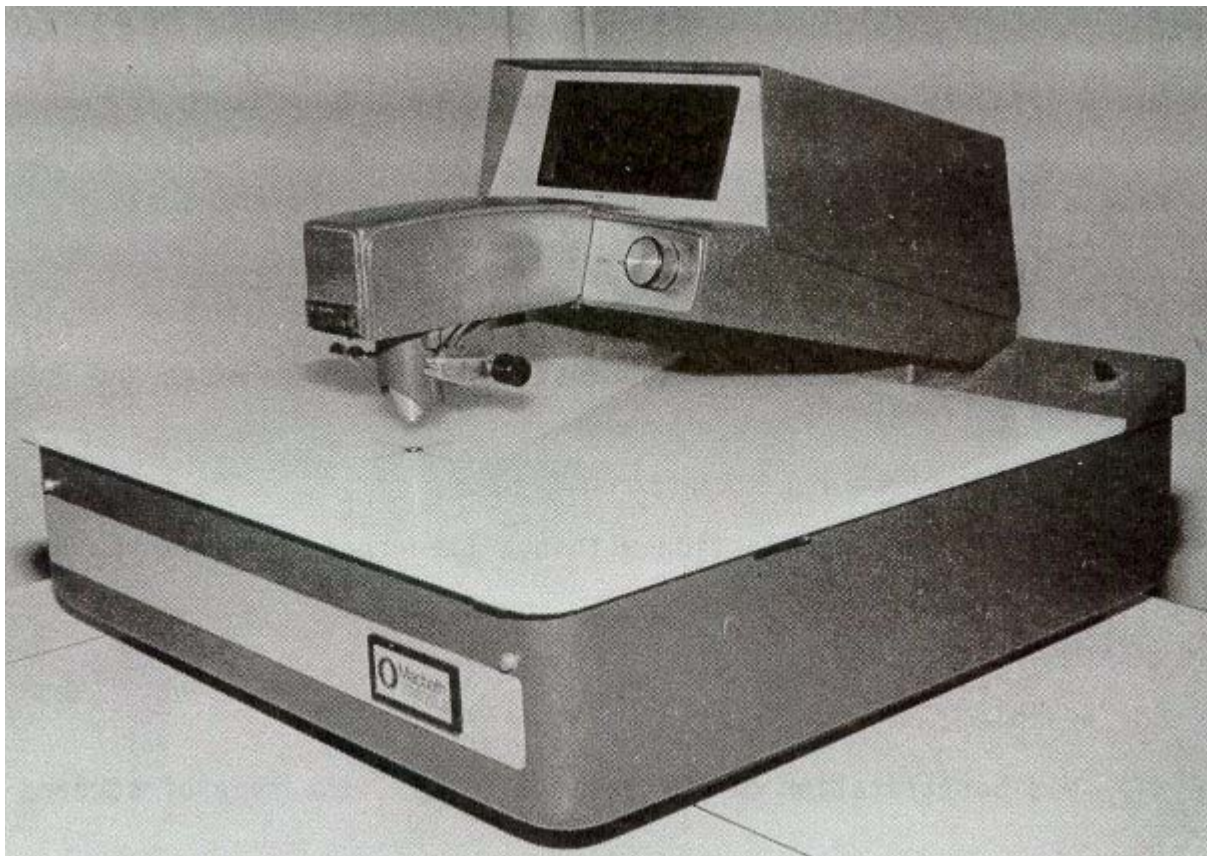

Figure 9-1. Densitometer used in making density readings.
- (3) Two mAs.
k. Use the densitometer for density readings (see figure 9-1).